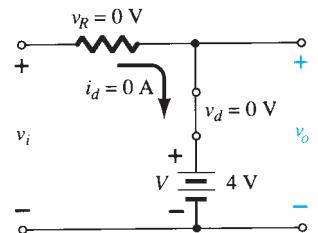

FIG. 2.83
Step 3: The transition level of the input voltage can be found from Fig. 2.83 by substituting the short-circuit equivalent and remembering the diode current is 0 mA at the instant of transition. The result is a change in state when